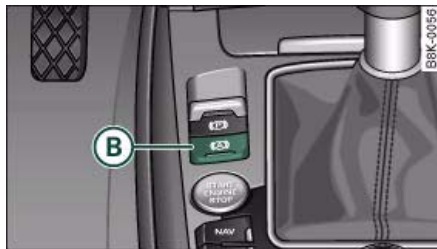

Fig. 137 Detail of the centre console: Button for Audi hold assist
- Press button **B** ⇒ fig. 137 in the centre console to switch on the Audi hold assist function. The indicator lamp in the switch will light up.
- Press button **B** ⇒ fig. 137 to switch off the Audi hold assist function. The indicator lamp in the switch will go out.